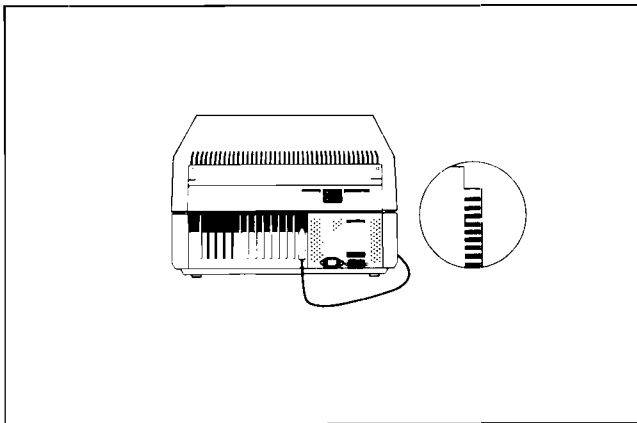

Figure 1-1. Keyboard Cable Connection
2. Connect the keyboard to the terminal by lifting the terminal's rear hinged cover (two rotating latches hold it down) and connecting the keyboard cable hood connector to the printed circuit assembly (PCA). The PCA is notched three conductor strips down from the top to match the connector (see figure 1-1).